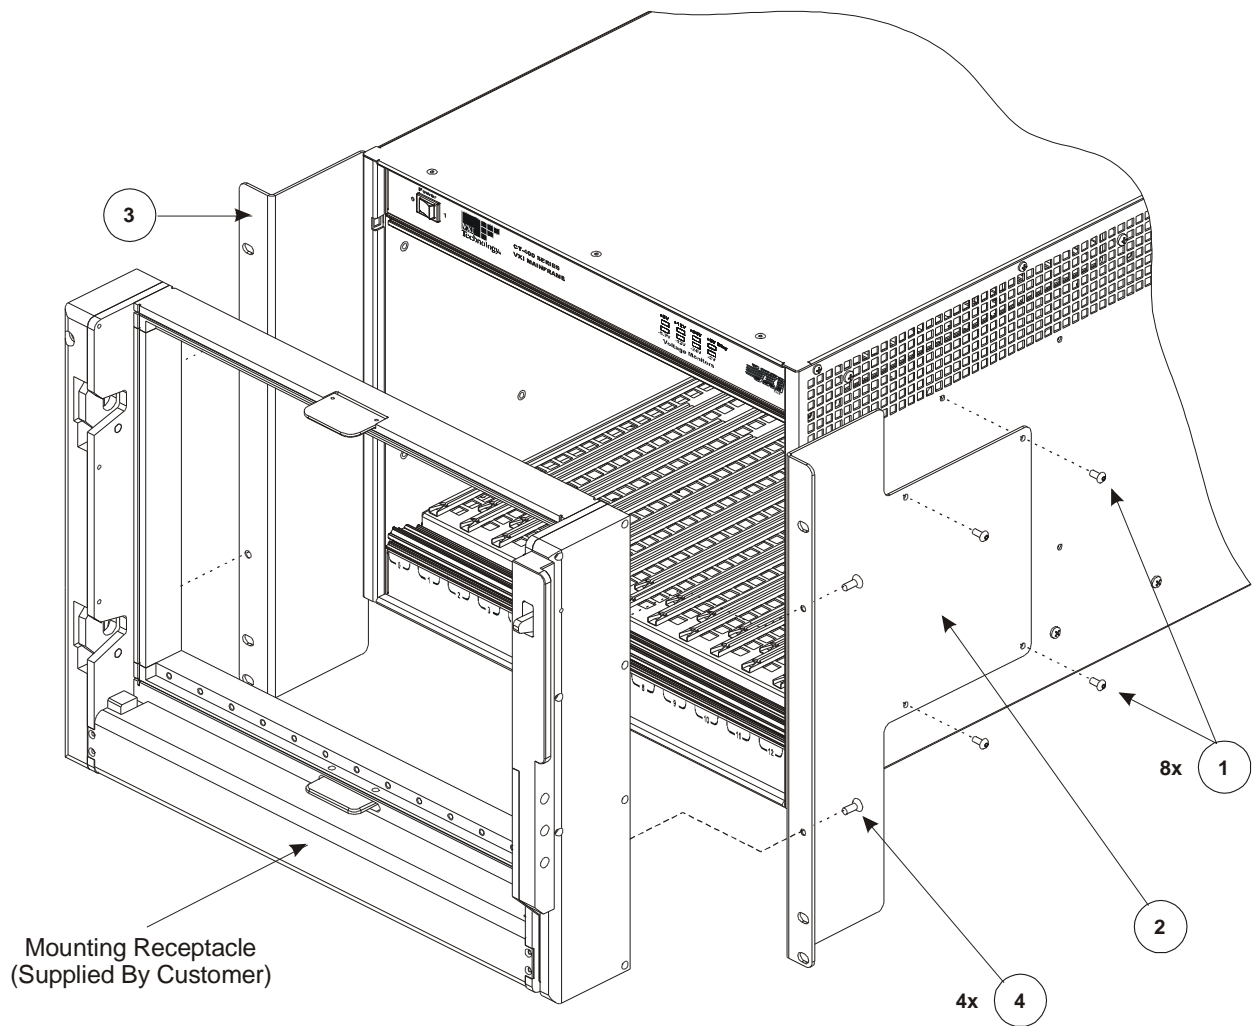

FIGURE 2-4: VXI PLUG & PLAY RACK MOUNT INSTALLATION DIAGRAM
- 2) Locate the right and left side rack mount brackets. Install the rack mount brackets using eight 8-32 x 5/8" button head Torx screws. Refer to Figure 2-4 for guidance. The VXI*plug&play* mounting holes must be aligned where all three mounting holes are directly over the holes on the vertical rails of the rack. In addition, the VXI*plug&play* mounting flanges should cover exactly nine full EIA rack units.